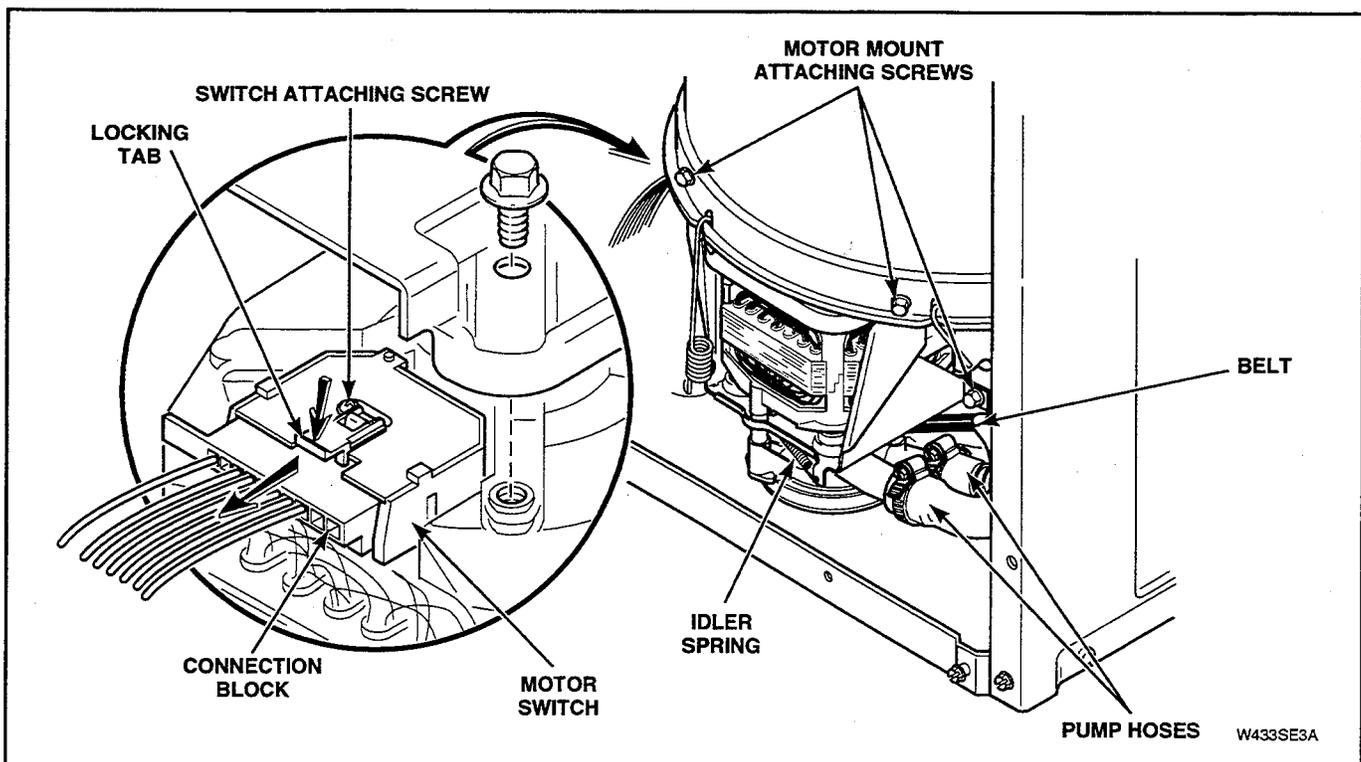

Figure 5-17
- Loosen hose clamps and remove hoses from pump assembly. See Figure 5-17.
- Unhook idler spring from clip on front of motor mounting bracket. See Figure 5-17.
- Reach in and around right side of motor and run belt off right side of large drive pulley. See Figure 5-17.
- Disconnect wire harness from motor switch by pressing down on locking tab on top of connection block and at the same time pull connection block away from motor switch. See Figure 5-17.
- Remove four screws holding motor and mounting bracket to lower outer tub flange and to weldment assembly. See Figure 5-17. Then lift complete assembly out of washer.
- d. Loosen hose clamps and remove hoses from pump assembly. See Figure 5-17.
- f. Reach in and around right side of motor and run belt off right side of large drive pulley. See Figure 5-17.